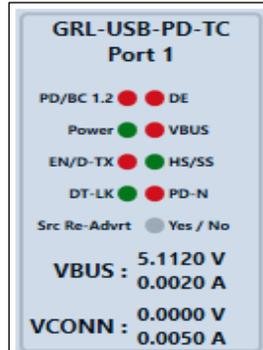

Figure 57. LED Enumeration Status
2. Connect any USB Type-C cable to any Port on the GRL-V-UP tester and check the enumeration status; i.e, DT-LK, HS/SS & DE LED's (as shown in Figure 57 below) are turned ON or not. If the LED's are not turned ON, try detaching and attaching the cable or change the cable. Once the LED's are turned ON, the loopback test is ready to execute.